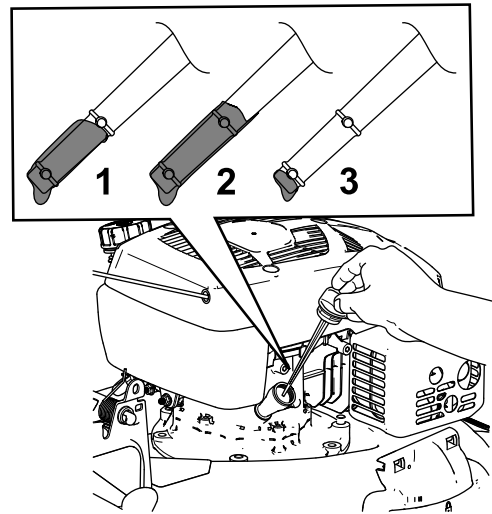

Figure 13
2. Remove the dipstick (Figure 13).
5. Read the oil level on the dipstick (Figure 13).